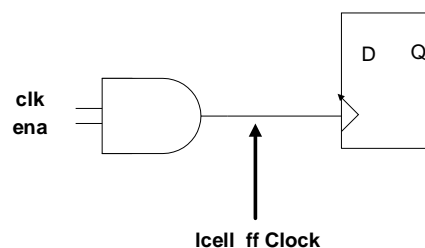

Figure 8 - Grouping of Clock and Clock Enable Pairs to Form lcell_ff Clocks
1. All **clk** and **ena** signals on an lcell_ff are paired to form a register clock (see Figure 8). In any LAB, there can be no more than 2 distinct clock pairs.